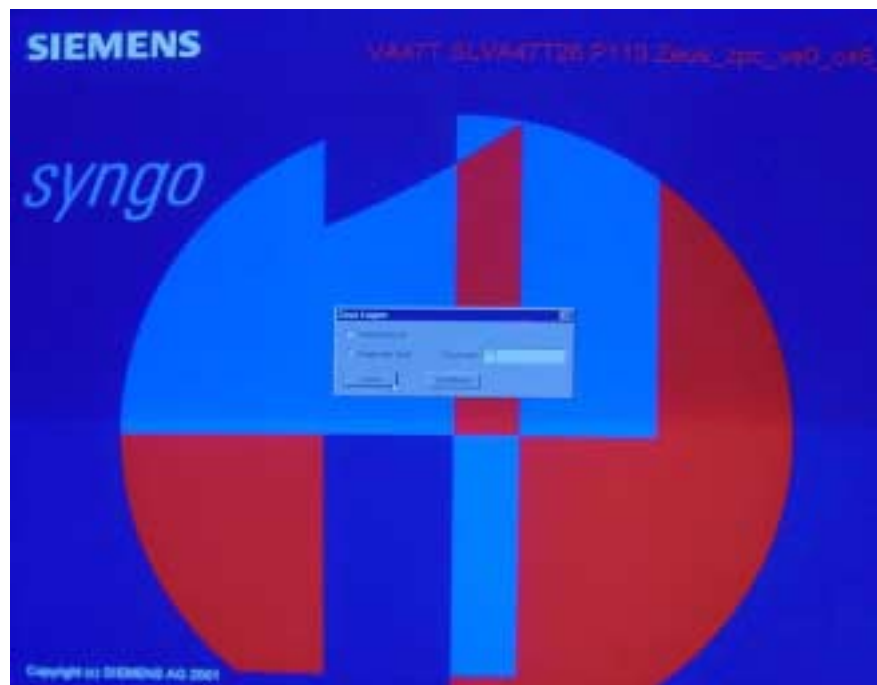

Figure 13-54 Syngo boot screen
12. Reboot MDS after Application has been loaded, and immediately press and hold *Shift* key when Syngo screen appears (see Figure 13-54 at top of next page).